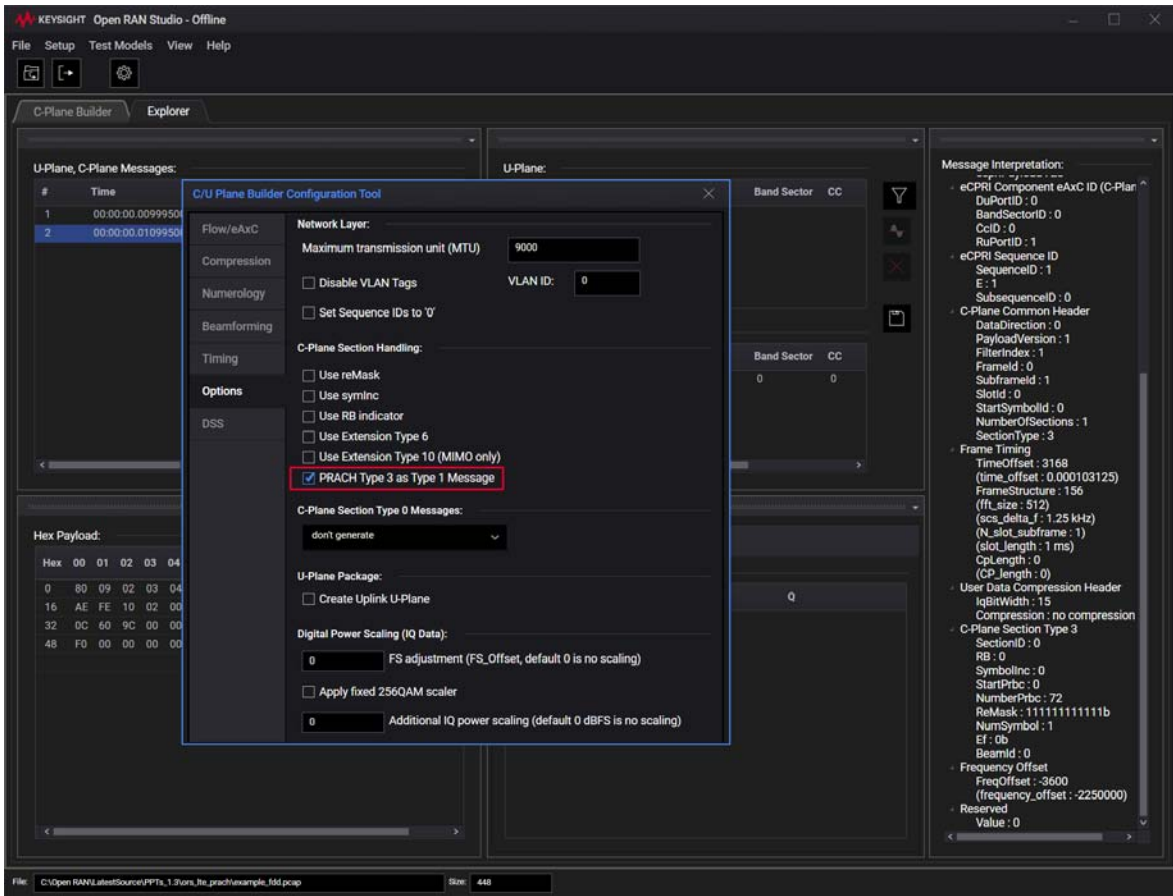

Figure 221 Configuring PRACH Type 3 as Type 1 Message
- 1 Load the stimulus / recording PCAP file into O-RAN Studio that contains Section Type 3 C-Plane messages for the PRACH carrier. See Figure 221.